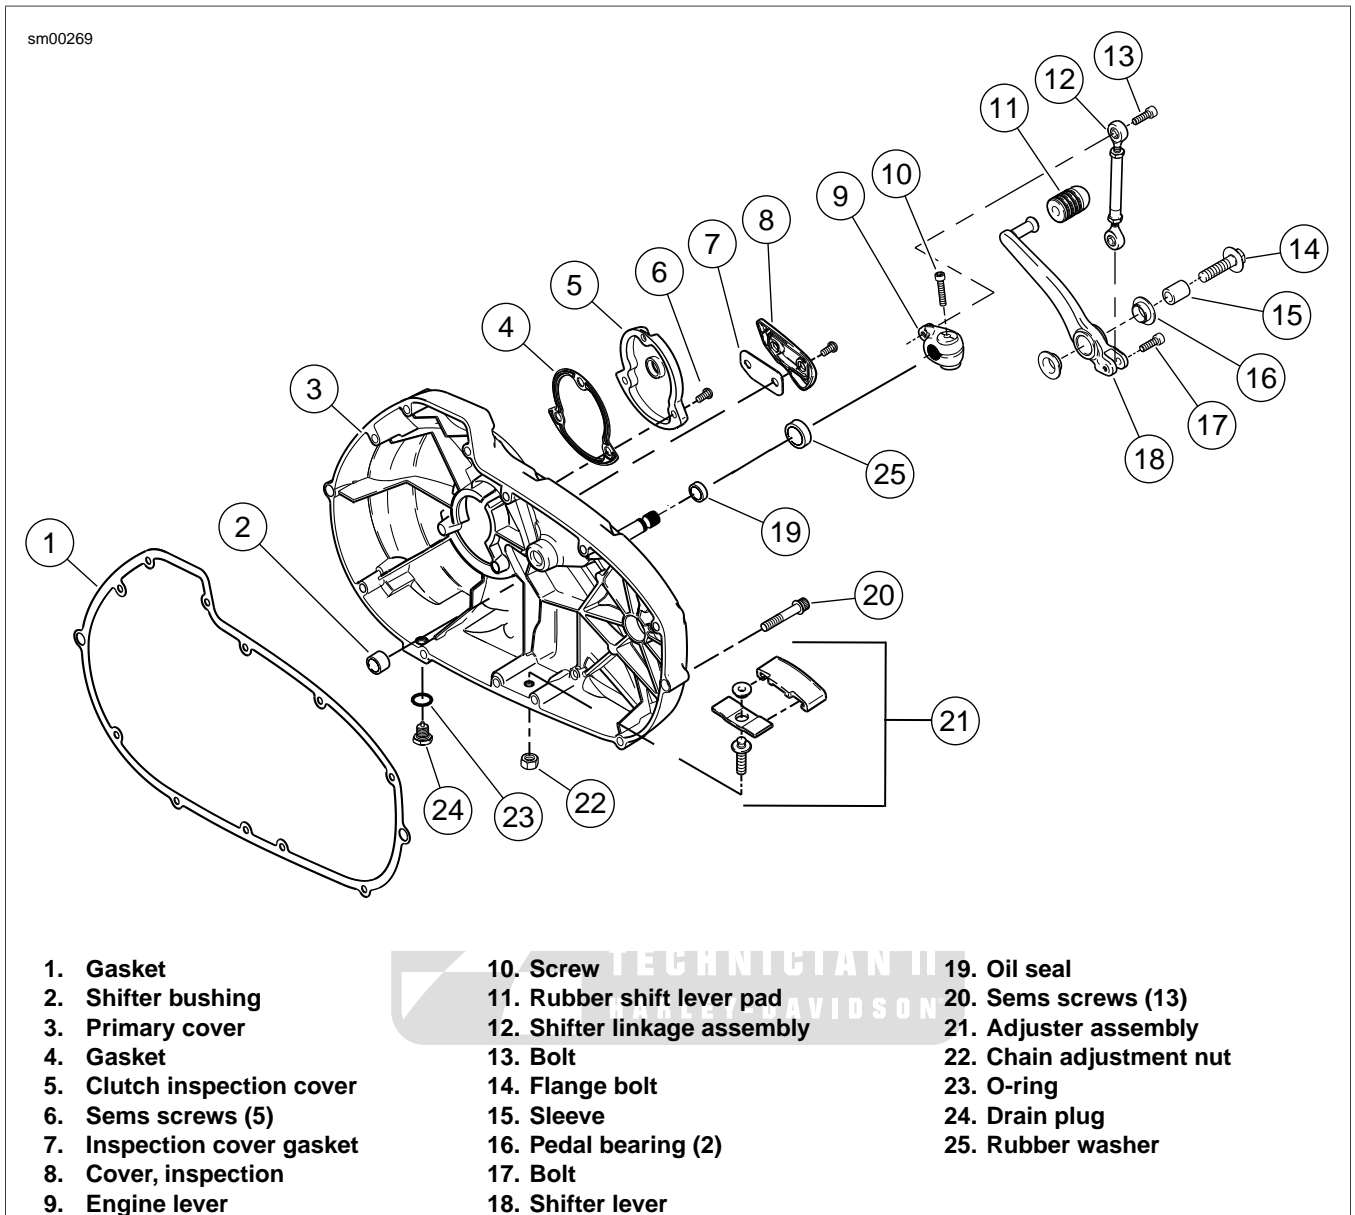

Figure 5-3. Primary Cover, Primary Chain Adjuster and Shifter Assembly
14. See Figure 5-3. Remove and discard shifter lever oil seal (19).
5. See Figure 5-3. Install **new** shifter lever oil seal (19).